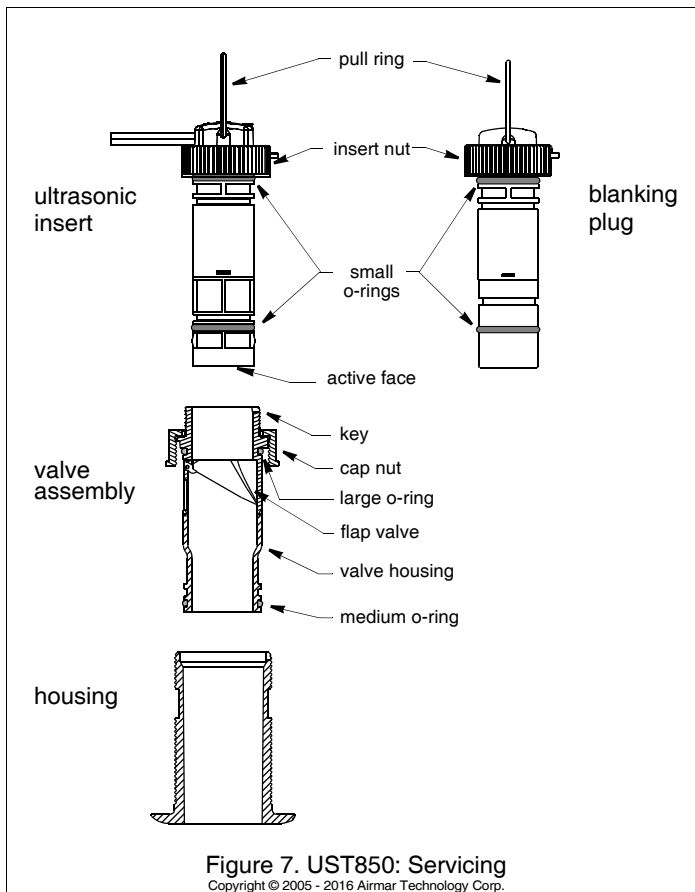

Figure 7. UST850: Servicing
1. Place the *insert* nut on the top of the blanking plug (Figure 7). Attach the pull ring to the plug, capturing the *insert* nut.
3. Unscrew the *insert* nut. **Do not remove the cap nut.** Grasp the pull ring and remove the ultrasonic insert with a slow pulling motion (Figure 7).
- To free the *cap nut*, remove the ultrasonic insert/blanking plug from the valve assembly by unscrewing the *insert* nut (Figure 7). Grasp the ultrasonic insert/blanking plug by the pull ring and pull upward slowly.
- Clean, repair, or replace the valve assembly, so the flap valve moves freely and seats against the valve housing (Figure 7).